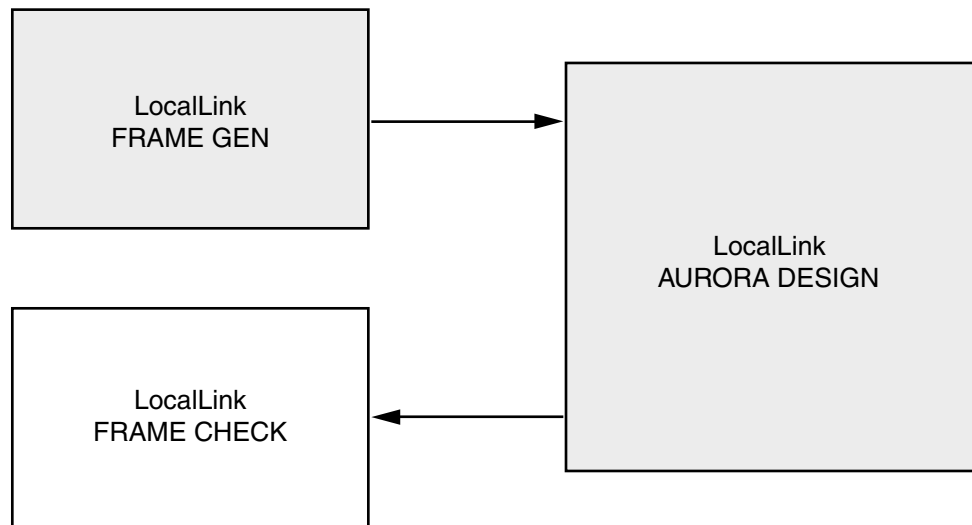
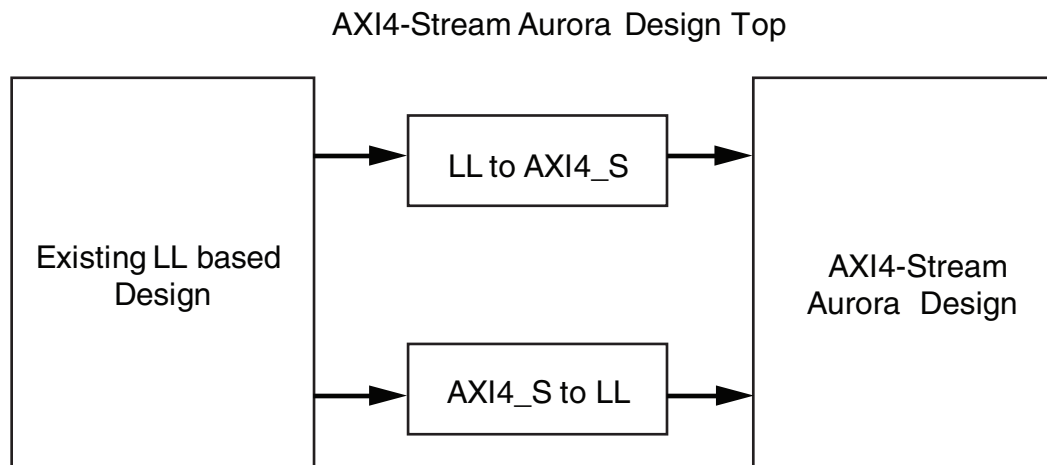

Figure B-1: Legacy Aurora Example Design
Figure B-2: AXI4-Stream Aurora Example Design
Figure B-1 shows an example Aurora design using the legacy LocalLink interface. Figure B-2 shows an example Aurora design using the AXI4-Stream interface.
2. See Figure B-2, page 87 for the emulation of an LL Aurora core from an AXI4-Stream Aurora core.
5. Connect the shim and AXI4-Stream Aurora design as shown in Figure B-2, page 87.